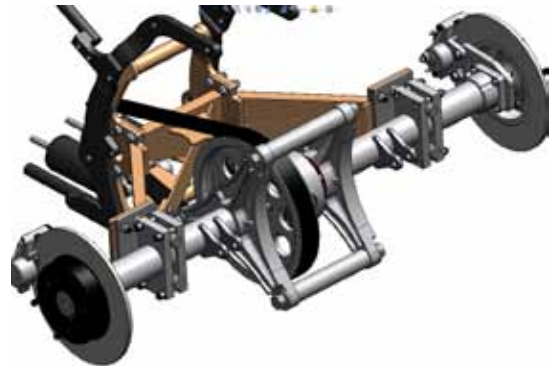

Figure 21
- e. Reinstall the upper and lower rear connector tubes. Apply 2-3 drops of oil to the connector tube bolts, install and torque to 150 lb. ft. Figure 21